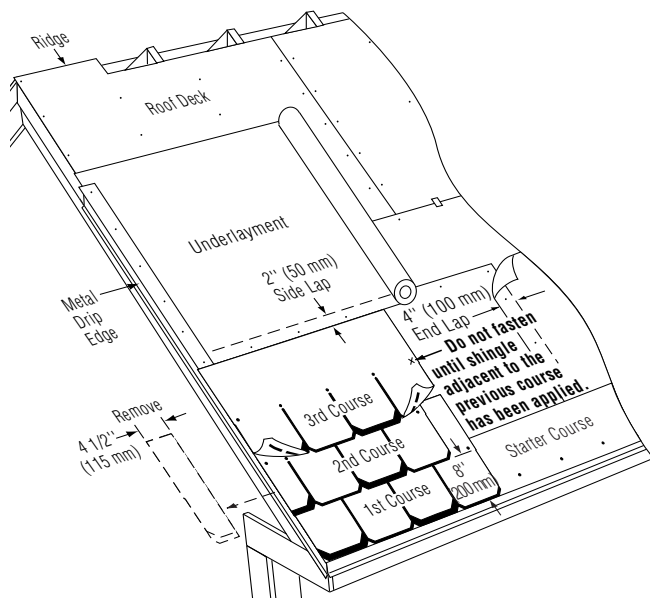

Figure 16-9: Applying the first 3 courses on a standard slope.
**1ST COURSE:** The first course starts with a full shingle at the lower left corner of the roof. Keep the tabs flush with the left and bottom edges of the starter course (Figure 16-9).
**2ND COURSE:** Cut  $4\frac{1}{2}$ " off the left end of a shingle. Apply the remaining larger piece over the first-course shingle, flush with the left edge and leaving 8" of the first course exposed. Snap chalk lines horizontally and vertically, as necessary (Figure 16-9). Be sure to check for proper alignment.